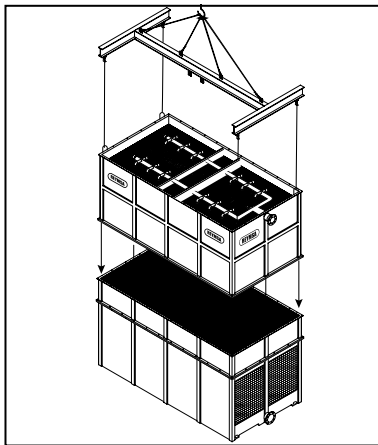

Figure A-87: Upper Body section installation for a modular tower (RTGM-D, RTGM-E, RTGMTC-G & RTGMTC-H)
- M. Only for RTGM-D, RTGM-E, RTGMTC-G & RTGMTC-H models:** Place Upper Body section #1 on top of Lower Body section #1, making sure that the bolt holes are aligned (see Figure A-87). Bolt down and secure the horizontal flanges with the stainless steel nut and bolt sets supplied by REYMSA.